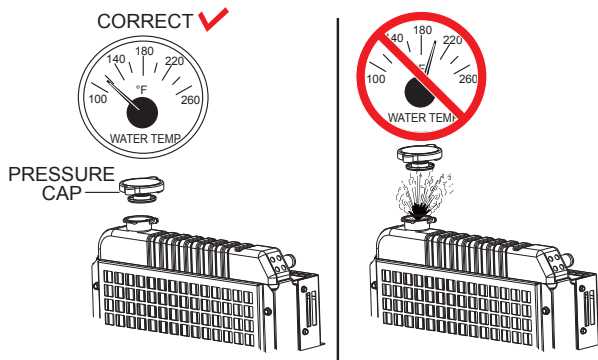

Figure 67. Radiator Pressure Cap Removal
1. Remove the radiator pressure cap (Figure 67) only if the coolant temperature is below 120°F (50°C).